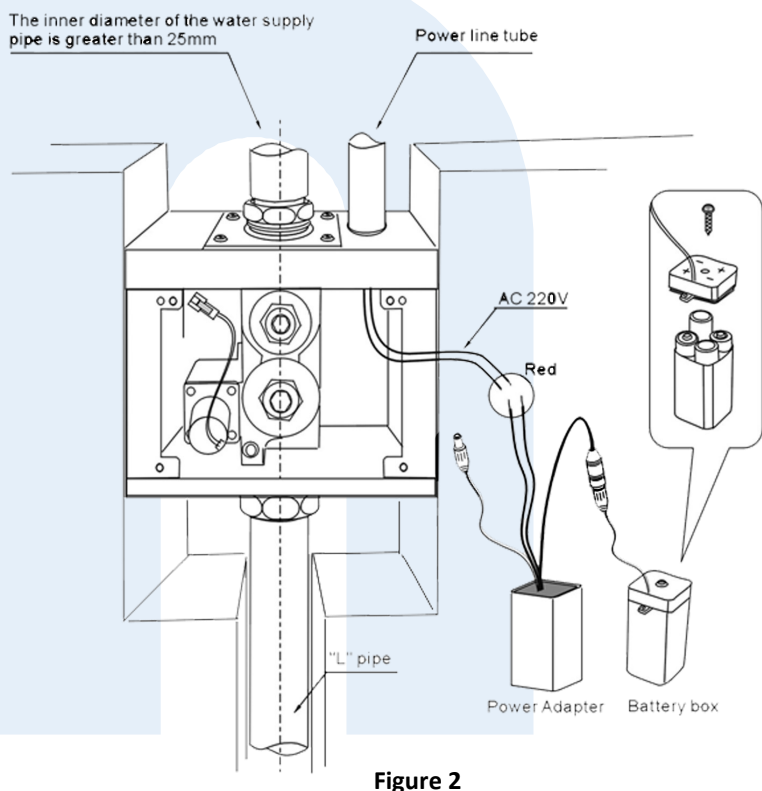

Figure 2
3. Remove the mortar mold sleeve and insert the AC 240V power cord into the hole of the embedded box. Tie the 2 red wires of the power adapter box with the 2 AC 240V power wires respectively, and wrap them with electrical tape. If using batteries, install 4 x AA alkaline batteries and put the power adaptor and battery box into the embedded box (Figure 2).